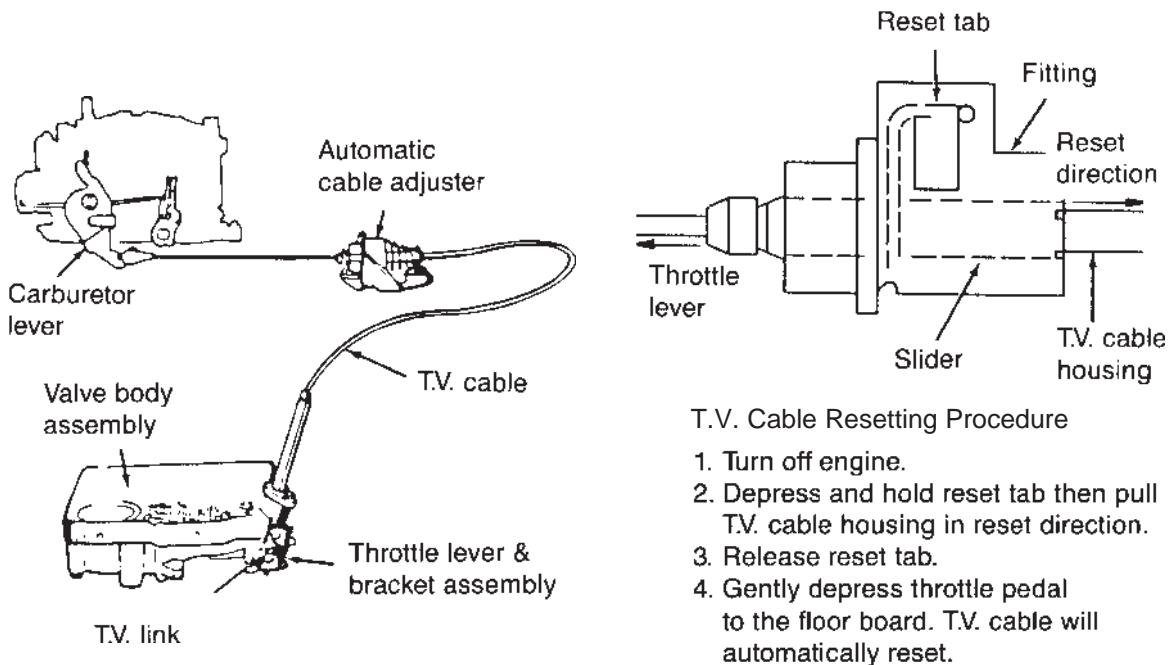

Fig. 11. T.V. Cable Adjustment Procedure.
STEP 22. You must reset the TV cable, See Fig. 11 for the correct procedure. Failure to reset the TV cable will result in poor shift quality and, or transmission failure.
Set the T.V. cable (See Fig. 11) With the brakes applied, take the line pressure readings at the selector lever position and engine R.P.M. specified in the chart.